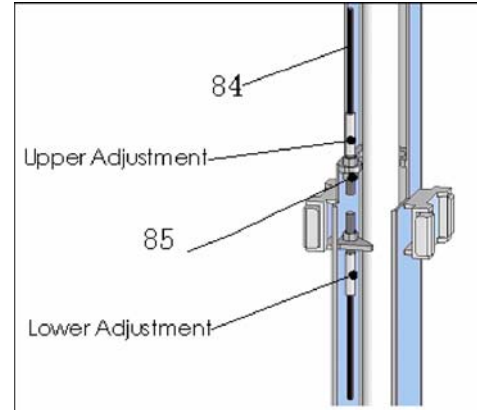

Fig 3 – Synchronizing Cables
- 15) Attach one end of synchronizing cable to carriage. See **Fig 3** for proper attachment.